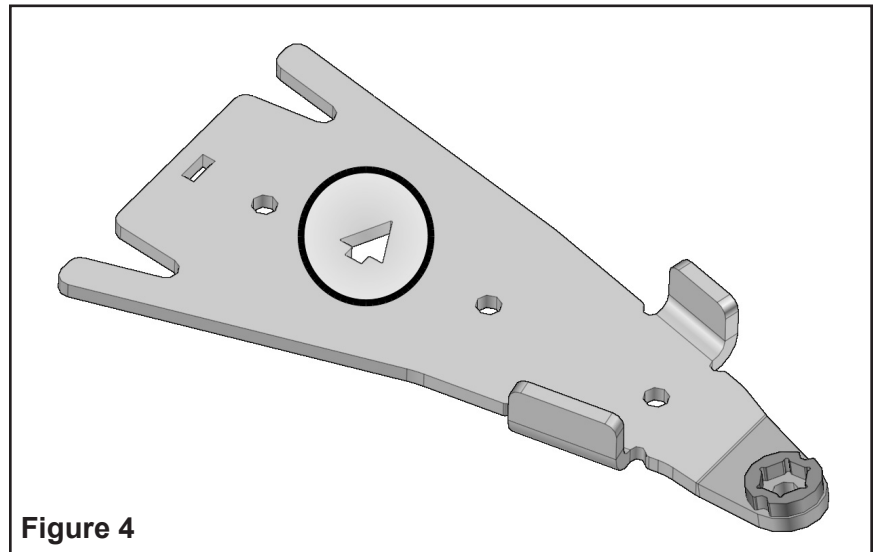

Figure 4
1. For installation purposes, directional arrows have been cut out of the main components in the anchor bracket kits. These arrows indicate the front of the vehicle relative to the component. Figure 4.